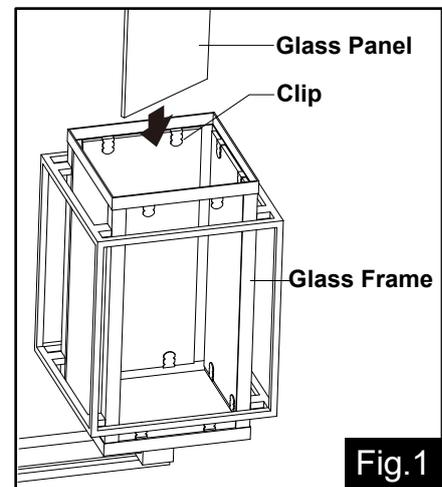

Fig.1
2. Attach the mounting plate (A) to the outlet box by using two mounting screws (B).
3. Take a glass panel and gently slide it into the glass frame in place, secure it by pressing two clips on top side of the glass frame and two clips on the bottom of the glass frame. Repeat with the other glass panels. (See Fig.1)